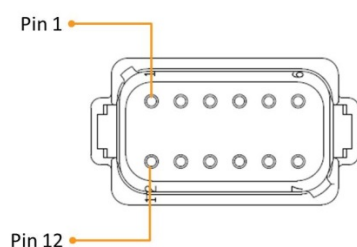

Figure 8: DT connector pinout
- ! Note that the pin-order 1-12 in tables below are oriented as when looking at the receptacles from the rear of the *CCpilot VS 12"* device, i.e. pin 1 at *top-left* position and pin 12 at *bottom-left* position, see Figure 8.